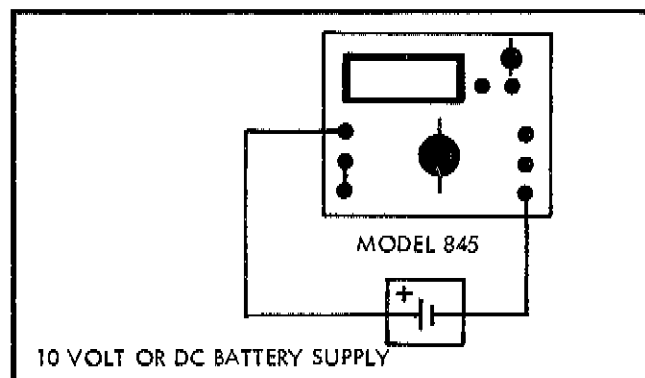

Figure 4-11. LEAKAGE RESISTANCE TEST EQUIPMENT CONNECTIONS
- Connect the equipment as illustrated in Figure 4-11.